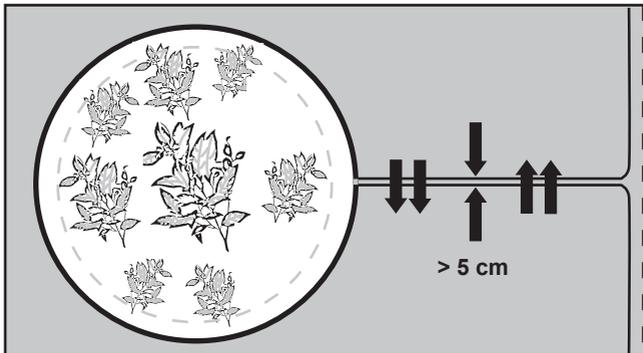

Fig. 4
2. Keep the distance between the two parallel wires below 5 mm without crossing them, and position an obstacle, like a large rock or pole, near position A as indicated in the illustration (Fig. 4). Ensure the obstacle is surrounded by a flat 1 m x 1 m area, without any slopes, to allow the machine to smoothly exit the circular space.